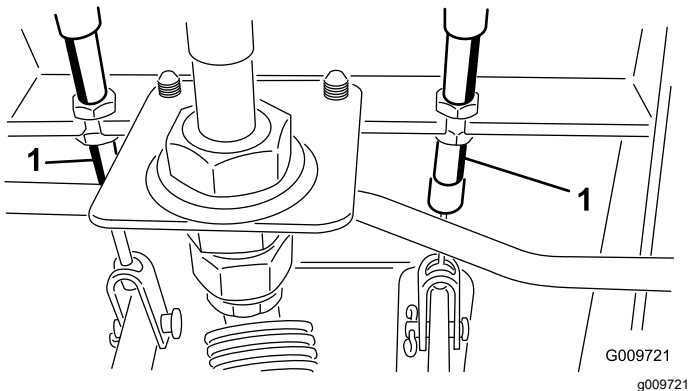

Figure 95
- A. Loosen the front nut on the threaded end of the brake cable (Figure 95).